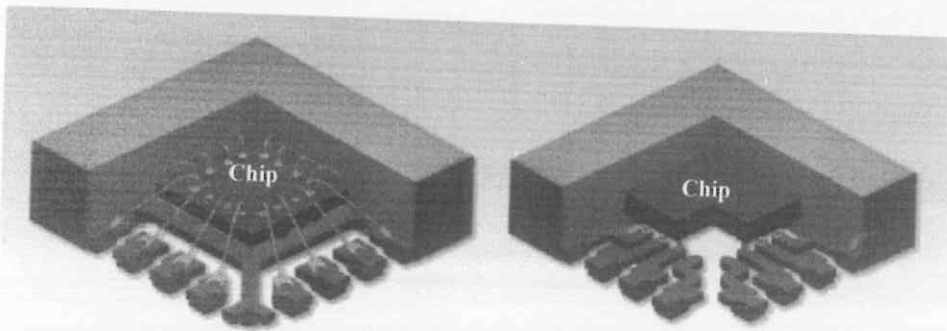

Figure Q3A – Cut-away views of QFN packages (a) with bond-wire interconnection (b) using flip-chip approach.
- (a) List out THREE (3) physical properties of packaging for integrated circuit (IC) that runs at frequency in excess of 1 GHz. [3 marks]
- (b) Figure Q3A shows the cut-away views of two QFN (quad-flat no lead) packages. The QFN packages will be soldered onto a PCB (printed circuit board) with ground plane. Which package is better in terms of signal integrity and bandwidth? Briefly explain your argument. [5 marks]